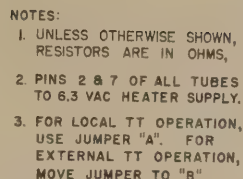
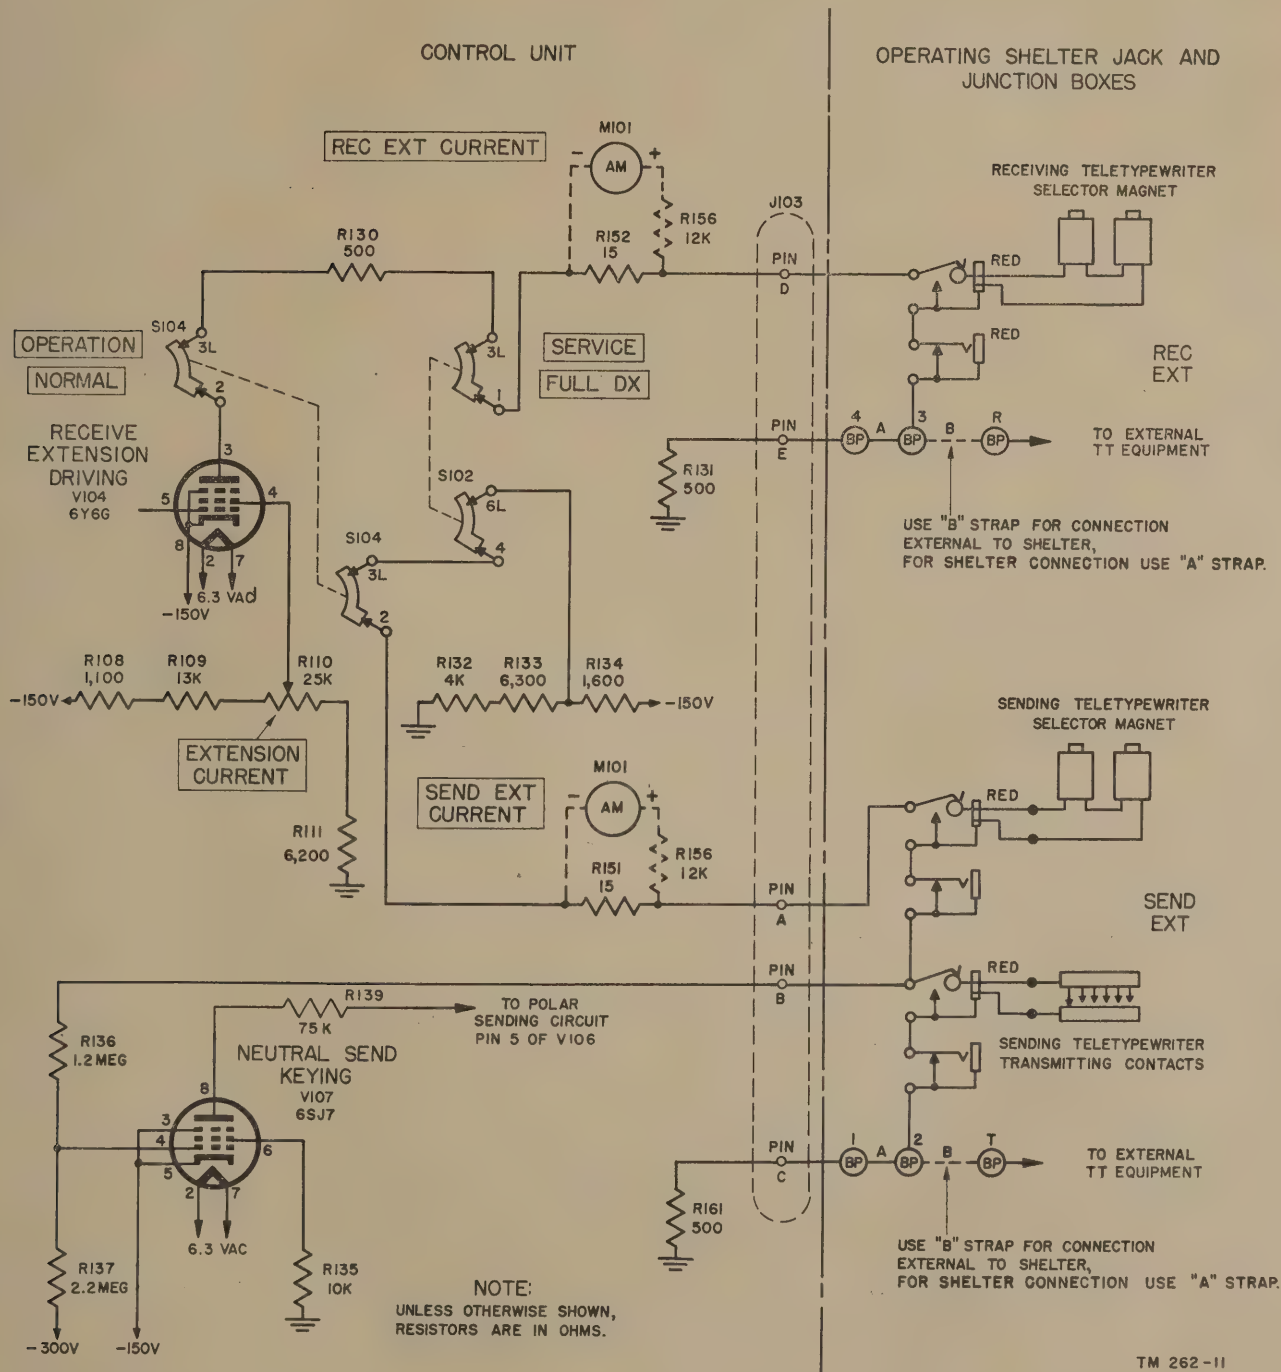

Figure 16. Simplified schematic diagram of sending circuit and send extension connections.
Figure 17. Schematic diagram of extension circuits arranged for full-duplex operation.
driving tube V106 and polar-mark driving tube V105, producing polar signals which are sent to the FS exciter (fig. 16).
a. The complete sending circuit operation may be traced through on the simplified schematic diagram of figure 16. During operation, plugs from the sending teletypewriter in the operating shelter are inserted in jacks of the send extension (SEND EXT) circuit, and the teletypewriter selector magnet is energized in series with the sending contacts (through pin A of J103). The opening and closing of the sending contacts operate the
### 33. Extension Circuits (figs. 17 through 19)
a. Figure 17 is a simplified schematic of the control unit extension circuit arranged for full-duplex RTT operation. The operating condition of full-duplex, half-duplex, or one-way reversible is controlled by rotation of SERVICE switch S102. The operation of neutral receive extension driving tube V104 (fig. 14) has been described in paragraph 30 and the functioning of the neutral send keying tube V107 (fig. 16) has been described in paragraphs 30 and 31. If the teletypewriters are located in the operating shelter, binding posts 3 and 4 are strapped to complete the receiving TT circuit to ground (through R131), and binding posts 1 and 2 are strapped to complete the sending TT circuit to ground (through R161). If external TT equipment is used, the straps shown at A are removed and the straps shown at B are connected. External receiving lines are connected to R and ground, and external sending lines are connected to T and ground, thus completing the circuits.